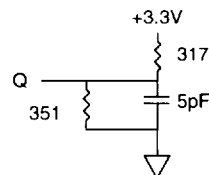

Fig. 2 OUTPUT LOAD EQUIVALENT
6. Output loading is specified with CL = 5pF as in Fig. 2. Transition is measured ±500mV from steady state voltage.
11. The load used for VOH, VOL testing is shown in Fig. 2. AC load current is higher than the shown DC values. AC I/O curves are available upon request.